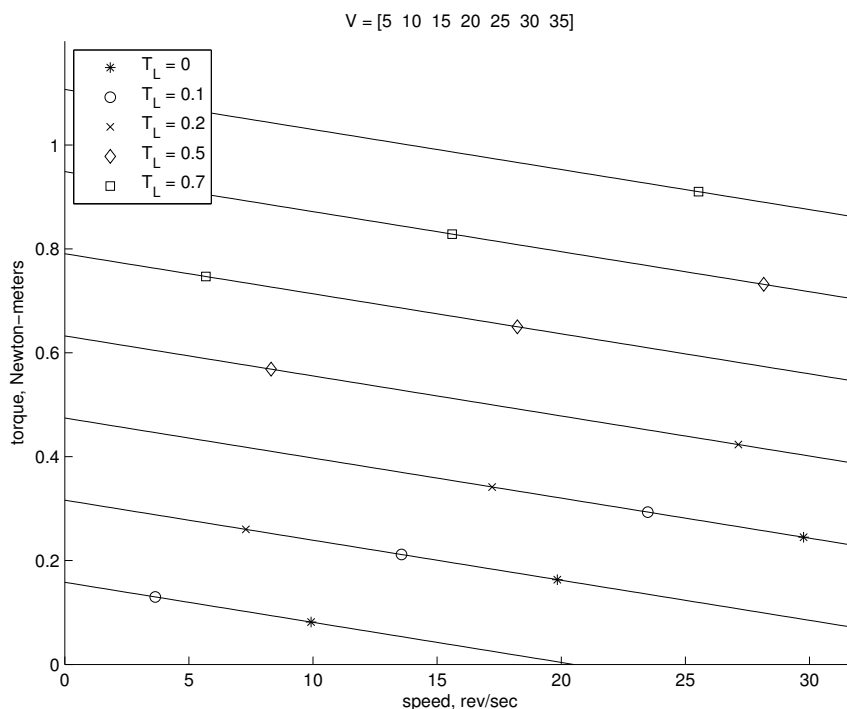
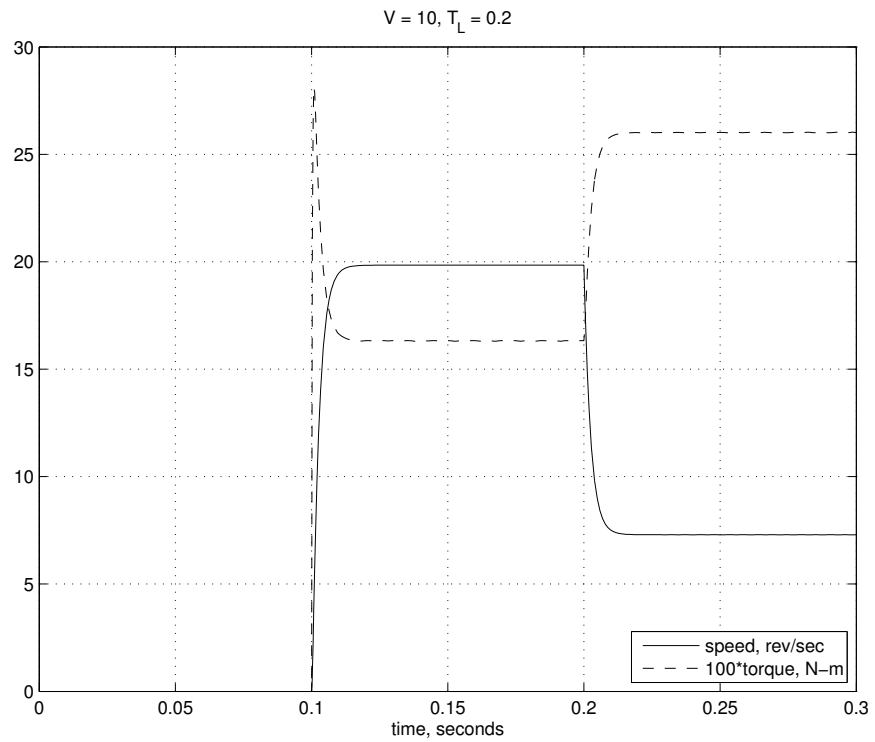

Figure 7: Torque-Speed Curves
Figure 10: Response of Speed and Torque to a Load
- (b) SOLUTION: Figure 7 shows several values of steady state speed and torque as the load torque is varied.
- (d) SOLUTION: In Figure 10 we plot the response of the motor to a load torque applied after the system has already achieved a steady state with no load in response to a constant input of 10 V. Using the Matlab command “ginput”, we determine that the unloaded steady state response satisfies $\Omega = 20 \text{ rev/sec}$, and $T_M = 0.164 \text{ N-m}$. With a load torque $T_L = 0.2 \text{ N-m}$, the steady state response becomes $\Omega = 7.3 \text{ rev/sec}$, $T_M = 0.26 \text{ N-m}$. These values are in agreement with the torque-speed curves in Figure 7.